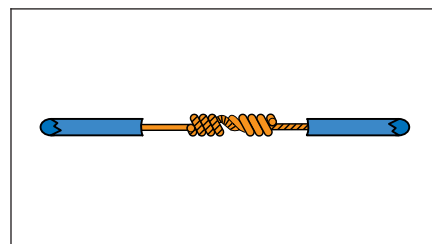

Figure 4 Solder Connection
7. Terminate any remaining wire length using a flush cut pattern. (This eliminates any wire protrusion that could extend beyond the outer circumference of the wrap and cause damage to the insulation/tubing that could result in a short.) (See Figure 4.)